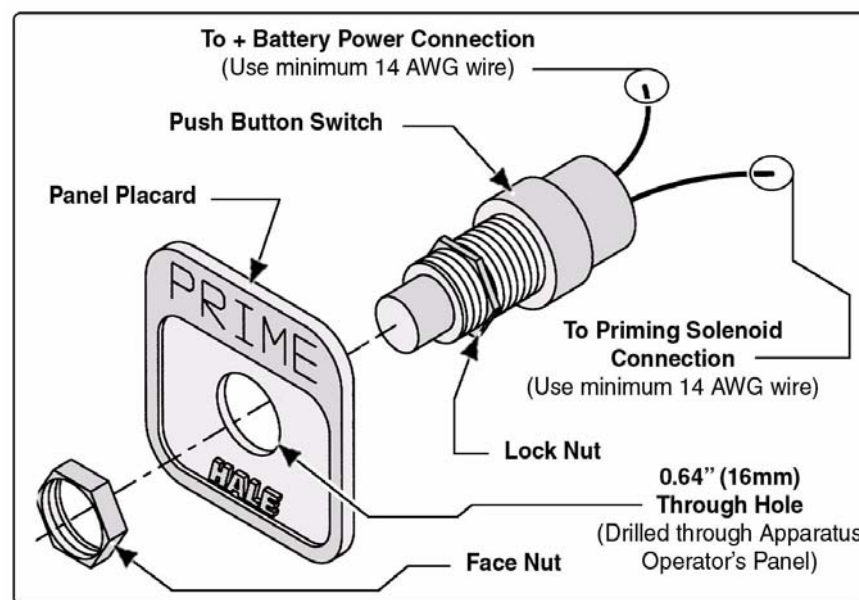

Figure 3-3: SPV Pushbutton Placard Overview
- Carefully locate the position of the pushbutton switch on the apparatus operator control panel. (See Figure 3-3: “SPV Pushbutton Placard Overview.”)
- Install minimum 14 AWG type SXL or GXL wire (SAE J1128) from one switch terminal to the priming pump solenoid connection. Secure the ring terminal to the push button switch using the screws provided. (See Figure 3-3: “SPV Pushbutton Placard Overview,” on page 21.)